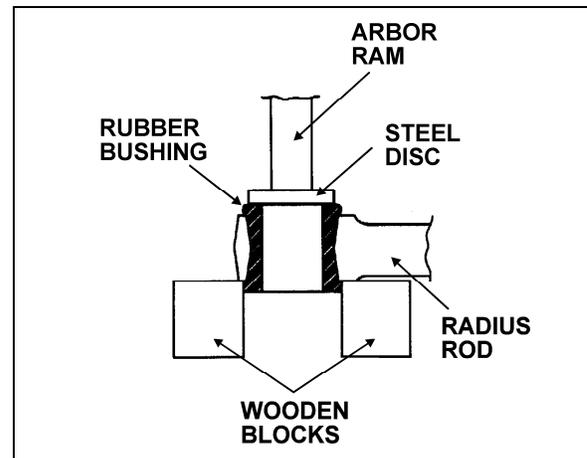

FIGURE 19: RADIUS ROD BUSHING REMOVAL 16011
- Flatten the tab washer which secures the two retaining nuts (or bolts), then unscrew the nuts (or bolts) at each extremity of the radius rod (Fig. 19).
- Safely support the radius rod as shown in figure 19.
- Place a flat steel disc, slightly smaller than the outside diameter of the bushing (Fig. 19).